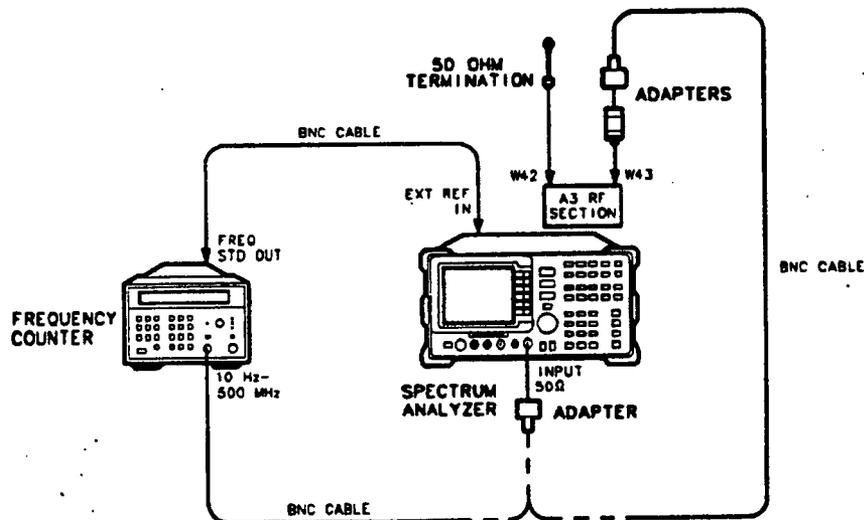

Figure 2-30. Tracking Oscillator Adjustment Setup
14. Connect the equipment as shown in Figure 2-30. The microwave frequency counter provides the frequency reference for the spectrum analyzer.